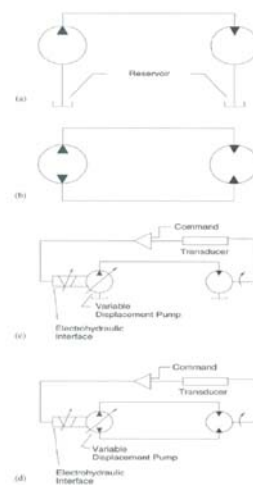

FIGURE 6.20
- Motor speed decreases as pressure load increases when pump displacement is set at given point. (Refer Fig 6.20)